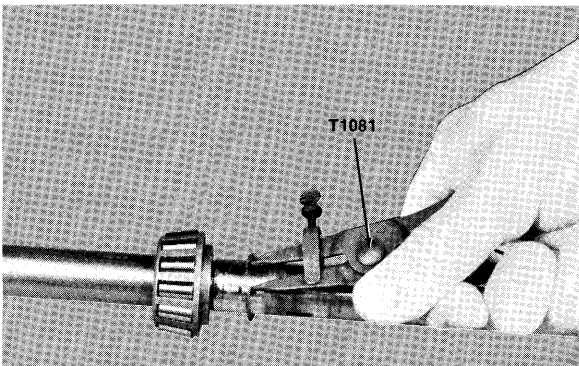

Figure 10—Removing Retaining Ring
- B. Remove retaining ring positioning bearing on driveshaft using retaining ring pliers (Special Tool T1081) as shown in figure 10.